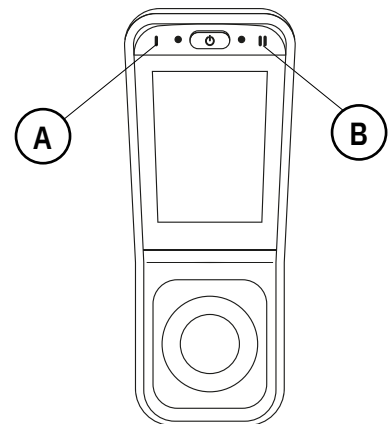

Figure 5.11. Controls for seat functions on the LiNX REM400.
Press button I (A) to switch between the driving functions and seat functions, see Figure 5.11.. To select the seat function, press button II (B) until the desired selection is visible on the display. You can also switch between seat functions by moving the joystick sideways.